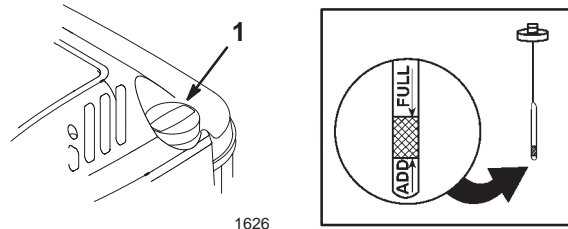

Figure 6
Before each use, make sure that the oil level is between the *Add* and the *Full* marks on the dipstick (Fig. 6).
2. Clean around the dipstick (Fig. 6).
6. Read the oil level on the dipstick (Fig. 6).
2. Clean around the fuel tank cap (Fig. 6).
3. Remove the cap from the tank (Fig. 6).